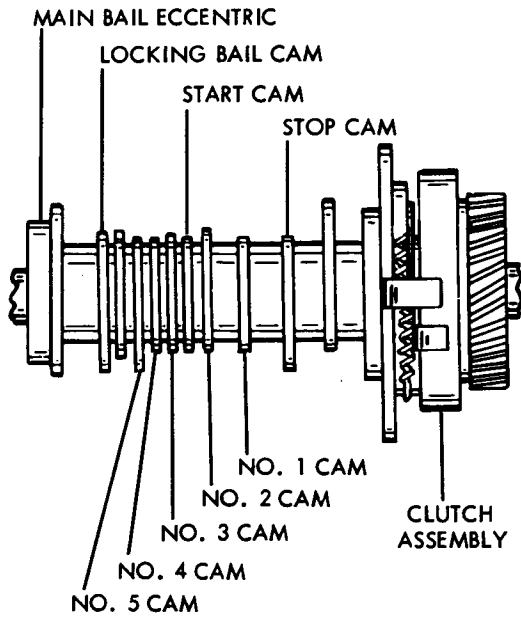

Figure 4-4. Cam-Clutch Main Shaft
(3) TT-187/UG. — Both power and signal connections to the distributor-transmitter are supplied through a single cable wired to the upper and lower terminal boards of the base. There is no provision for signal line continuity if the cable is disconnected from the terminal board.
(4) TT-187A/UG. — All electrical requirements for power and signal circuits are supplied through a 36-point connector J850 mounted on a bracket at the bottom of the distributor-transmitter. The connector mates with receptacle P301 on the base. P301 is wired to base terminal boards. The connector mounting bracket also mounts a line shunt switch operating screw which automatically opens the line shunt switch on the base when the distributor-transmitter is mounted in operating position.
c. CAM-CLUTCH MAIN SHAFT. (See figure 4-4.) — The cam shaft is an integral part of the main shaft, attached by a hub at the rear of the shaft to the disk of the clutch. The drum rotates freely about the shaft with the helical driven gear, to which it is attached. The cam-clutch has five sensing pin transfer lever cams, a start cam, a stop cam and a locking bail cam. The cams are positioned to trip their associated mechanisms in the order required for sequential electrical transmission of the marking and spacing